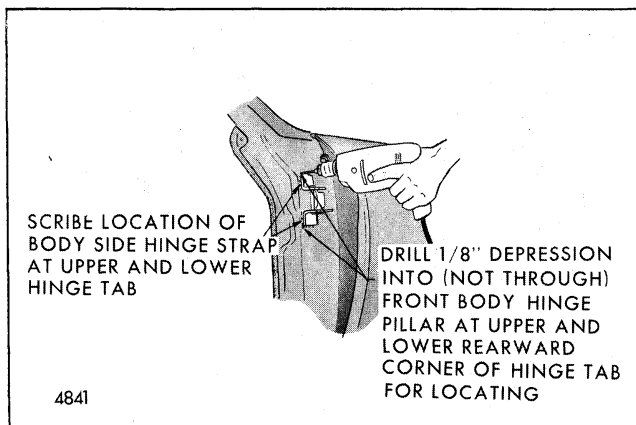

Fig. 5-86-Body Side Door Hinge Strap Removal - "H" Styles
2. Scribe hinge location at upper and lower hinge tab and drill indentation into (not through) hinge pillar facing with a 1/8" drill bit at the corners of the upper and lower hinge tabs as shown in Figure 5-86. Drilled depressions provide location for the replacement hinge and should not be lost during torching operation.